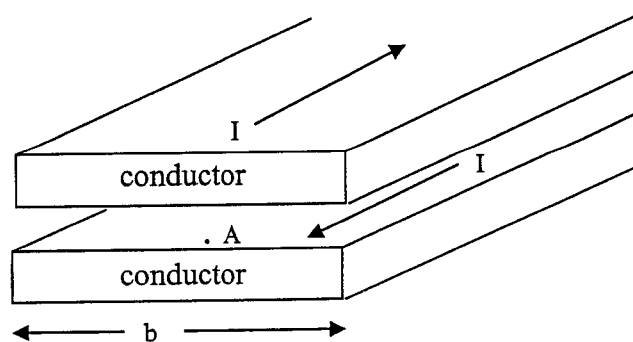

Figure 5
- (b) Each conductor of a very long strip transmission line, a part of which is illustrated in Figure 5, carries an alternating current  $I = I_0 \exp(j\omega t)$  in the direction shown.
- (c) Each conductor in Figure 5 has width  $b$ , conductivity  $10^7 \text{ Sm}^{-1}$  and a relative permeability of unity. Using equation (5) above, show that, inside the conductor,  $H$  decays exponentially with distance from the surface, and that it reaches  $1/e$  of its value at the point A, at a depth  $\delta$ , where